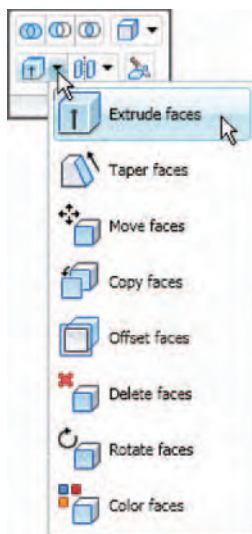

Fig. 18.4 The Extrude faces tool from the Home/Solid Editing panel
6. Click the **Extrude faces** tool icon in the **Home/Solid Editing** panel (Fig. 18.4). The command line shows:
2. Click on the **Move faces** tool in the **Home/Solid Editing** panel (see Fig. 18.4, page 344). The command line shows:
2. Click on the **Offset faces** tool icon in the **Home/Solid Editing** toolbar (see Fig. 18.4). The command line shows: